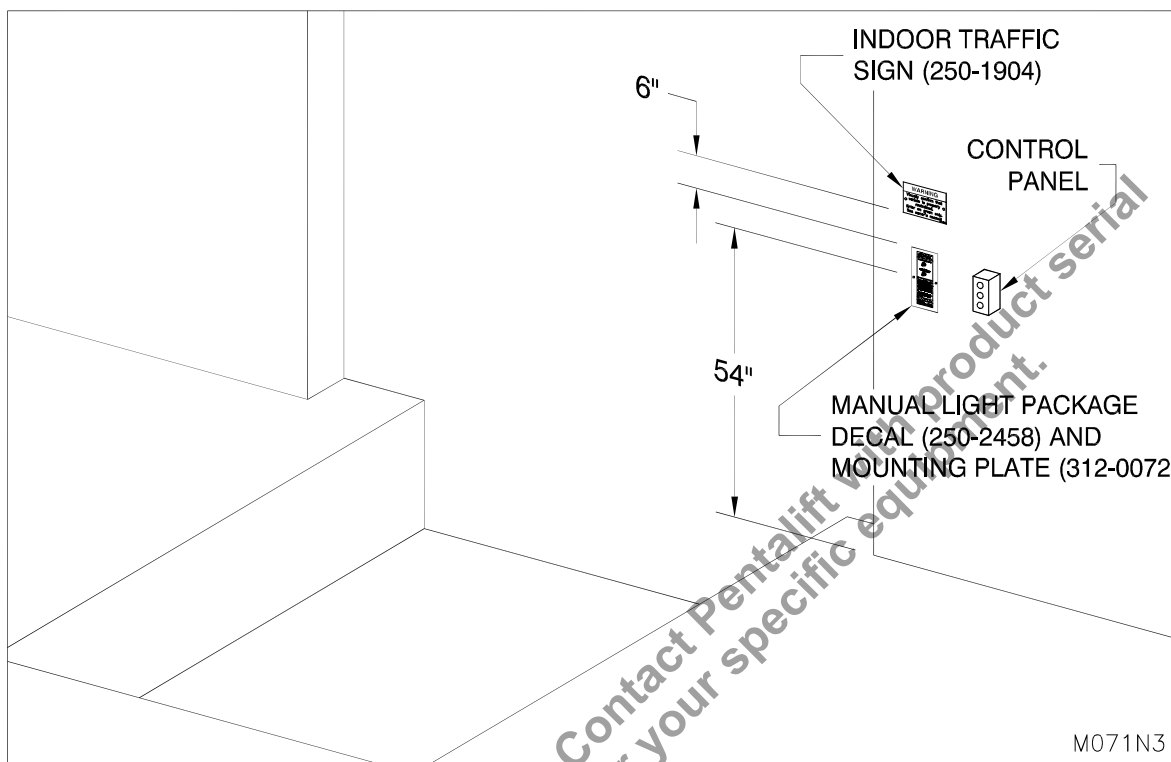

Figure 12: Interior Warning Labels for Optional Light Package
2.  Install the control panel and interior warning sign, "Enter on Green Only", in a location that ensures complete legibility of the operating instructions during the operation of all loading dock equipment, including the forklifts. (see "Figure 12: Interior Warning Labels for Optional Light Package" on page 14)